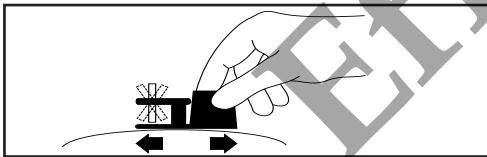

FIGURE 7
- d) Following the direction of the arrow on the device, slowly move the base of the MAGNA-FINDER™ back and forth over the tissue surface, as shown in Figure 7. The magnet of the MAGNA-FINDER™ will indicate the location of the injection site on one plane.